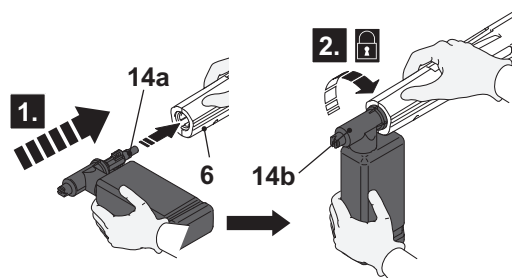

Fig. 16
- > Align and insert the tongues (14a) of the soap tank (14) with the grooves of the connection port of the spray gun (6) . (Fig. 16, step 1).
- > Securely fit the soap tank by turning it clockwise to lock it in place (Fig. 16, step 2).
- > Attach the water hose adaptor (18) on the water inlet (13).
- > Attach a suitable water hose (not included) onto the water supply and then the other end onto the water hose adaptor (18) (Fig. 16).